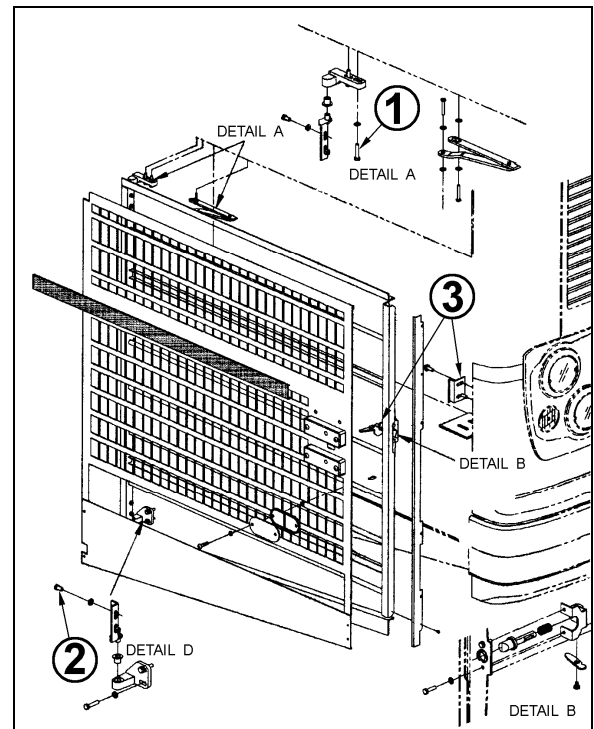

FIGURE 37: RADIATOR DOOR 18636
1. Loosen the bolts, (1, Fig. 37) holding the hinge to the vehicle structure to shift the door "IN or OUT" and "UP or DOWN".
2. Loosening the bolts (2, Fig. 37) allows the door to be shifted "LEFT or RIGHT" and "UP or DOWN".
To adjust the latch mechanism (3, Fig. 37) and the striker pin: